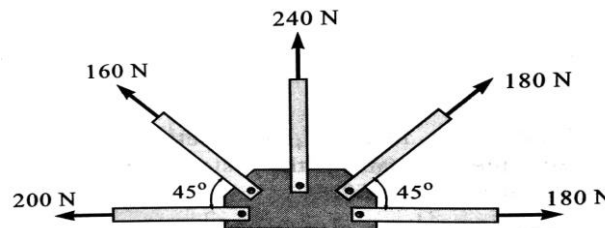

Fig.1
- 2 A gusset plate of roof truss is subjected to forces as shown in Fig.1. Determine the magnitude of the resultant force and its orientation measured counter clockwise from the positive x-axis. **12M**